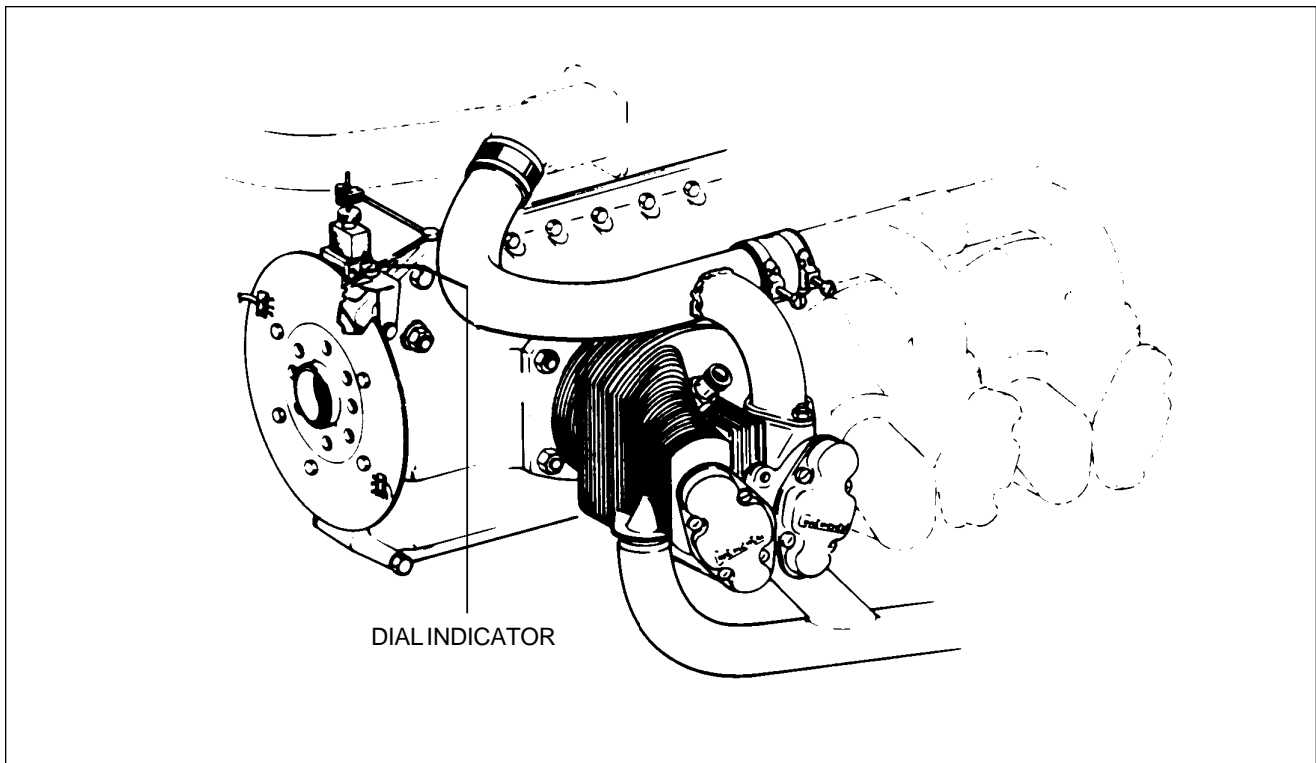

Figure 30-11. Use of Dial Indicator
- b. If uneven wear is found or if wobble is noticed, set up a dial indicator as shown in Figure 30-11 and check alignment of the slip rings to the propeller shaft as explained in this section.
Excessive slip ring run-out will result in severe arcing between the slip ring and brushes and cause rapid brush wear. If the run-out is not corrected, rapid deterioration of the slip ring and brush contact surfaces will result and lead to eventual failure of the Deicing System. Check the slip ring run-out with a dial indicator securely attached to the engine with the pointer resting on the slip ring. (Refer to Figure 30-11.) Rotate the propeller slowly noting the run-out indicated on the gauge. The total run-out must not exceed 0.005 inch \pm 0.0025 inch and 0.002 inch in any 4 inch interval of slip ring travel.